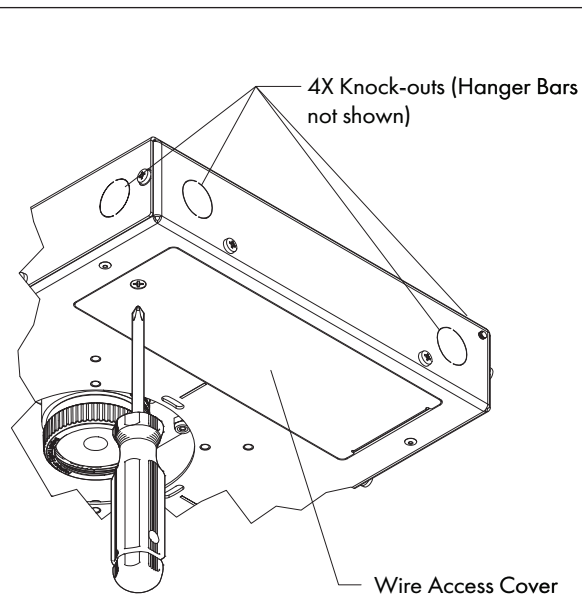

FIG 7.1 Knock-out locations & Wire Access Cover
STEP 1 Loosen screw & swing open wiring compartment cover. Cover can be fully removed or remain hanging. Pull out powerplug connector with black & white wires—**FIG 7.1 & 7.2.**
STEP 2 Remove available knock-out in housing & attach supply wire using a suitable wire connector—**FIG 7.1 & 7.2.**
STEP 4 Make wire connections & push all wires & connections completely inside wiring compartment—**FIG 7.1 & 7.2.**
STEP 5 Replace & secure wire access cover plate—**FIG 7.1.**